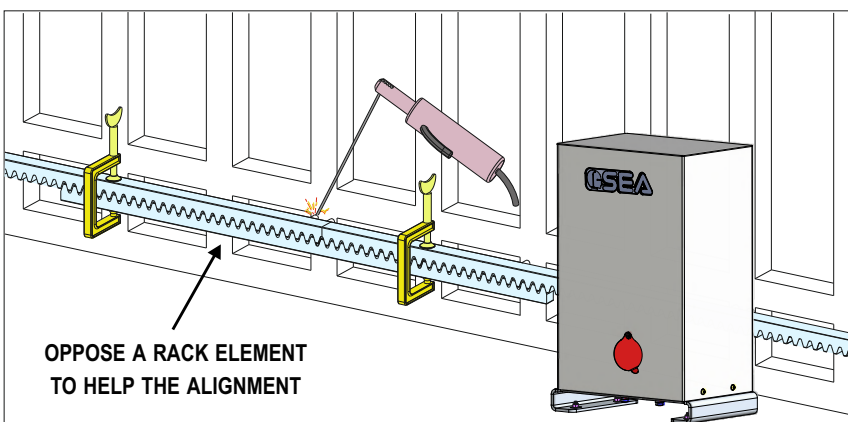

Fig. 13
5.5. Make sure that all the rack elements are perfectly aligned and correctly placed (**THE TEETH MUST BE IN PHASE**). It is suggested to oppose an element to two consecutive elements to ensure the perfect alignment as shown in Fig. 13;